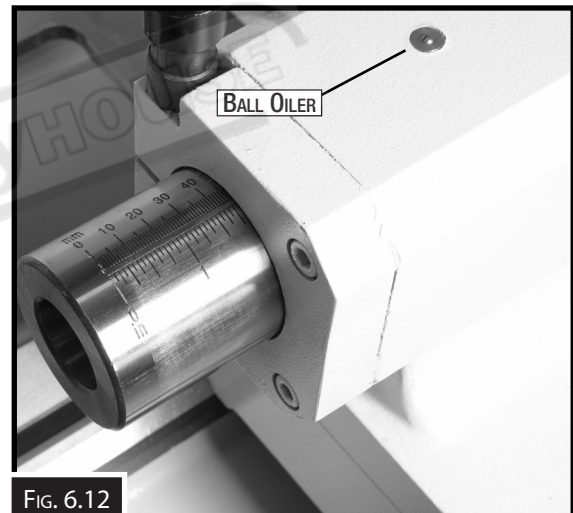

FIG. 6.12
- Tailstock ball oilers (Fig. 6.12)